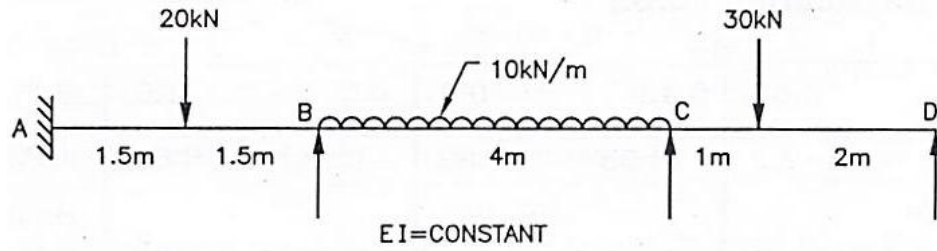

Fig.5
- (A) Draw B.M diagram for a beam shown in figure 5 using slope deflection method (7)